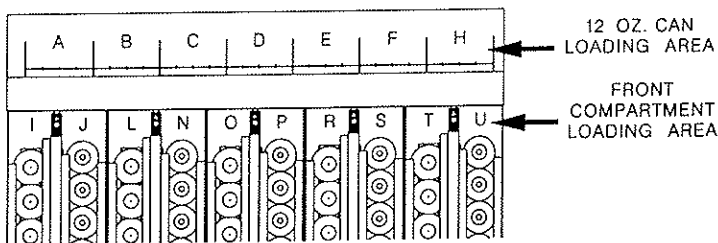

Figure 7
Figure 7 shows the letter identification of the various compartments. The front compartments are vertical columns used to vend bottled products. The back serpentine columns are used to vend the 12-ounce can drinks. Verify when loading the vendor that the product being loaded in the compartment coincides with what is identified in the live display.
The can area consists of seven (7) serpentine type columns for dispensing 12 ounce can drinks. **Figure 7** shows the loading area for the 12 oz. cans. Each serpentine column will hold 63 cans.